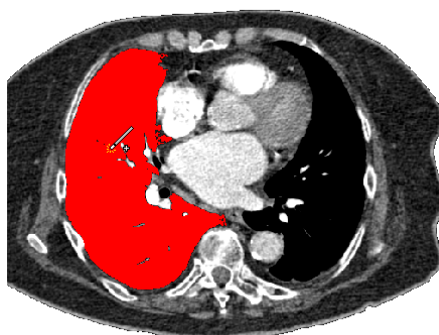

Figure 238 – Defining an area using the Magic wand drawing tool
7. Press and hold down the left mouse button to define the starting point and from there, drag the cursor to demarcate the area what you want to define. The further you drag the cursor away from the starting point, the wider the color range will be (see Figure 238).